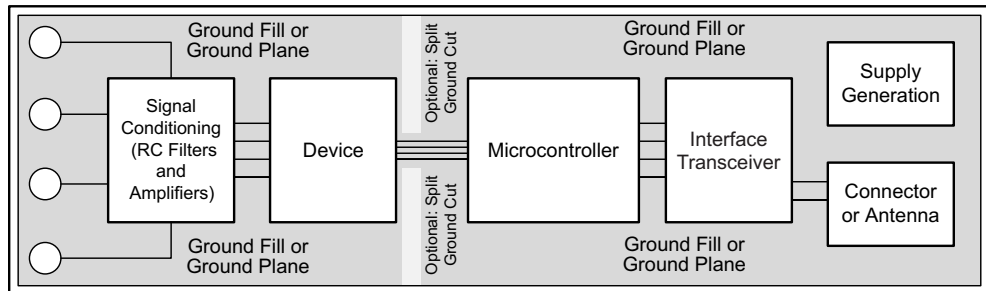

图 28. System Component Placement
Employ best design practices when laying out a printed-circuit board (PCB) for both analog and digital components. For optimal performance, separate the analog components such as ADCs, amplifiers, references, digital-to-analog converters (DACs), and analog MUXs from digital components such as microcontrollers, complex programmable logic devices (CPLDs), field-programmable gate arrays (FPGAs), radio frequency (RF) transceivers, universal serial bus (USB) transceivers, and switching regulators. Figure 28 shows an example of good component placement. Although Figure 28 provides a good example of component placement, the best placement for each application is unique to the geometries, components, and PCB fabrication capabilities. That is, there is no single layout that is perfect for every design and careful consideration must always be used when designing with any analog component.